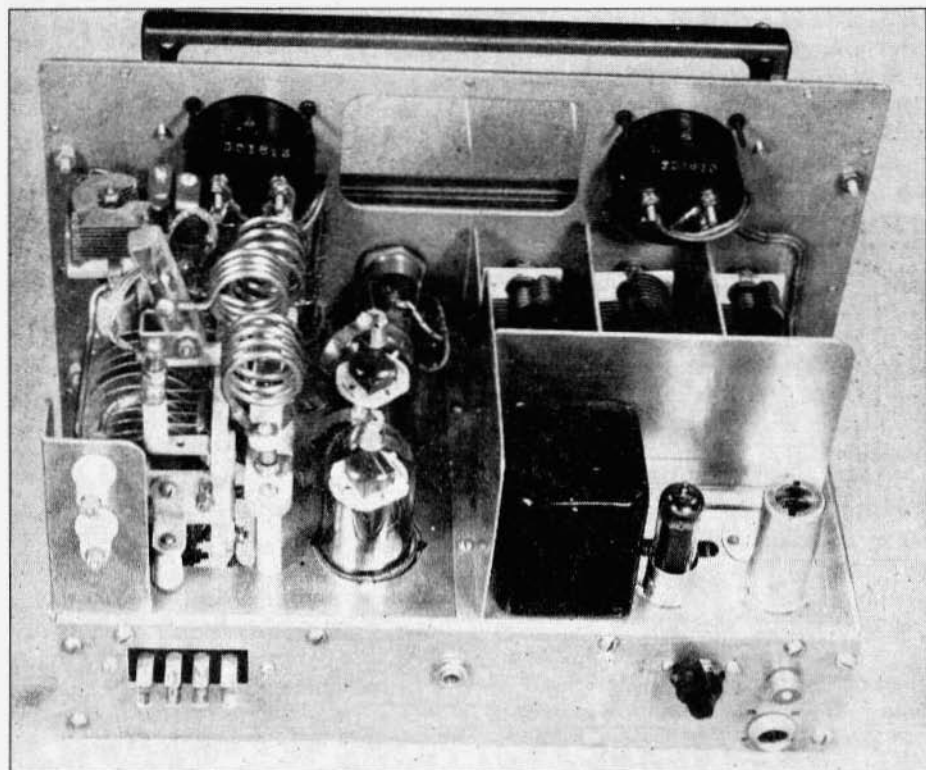
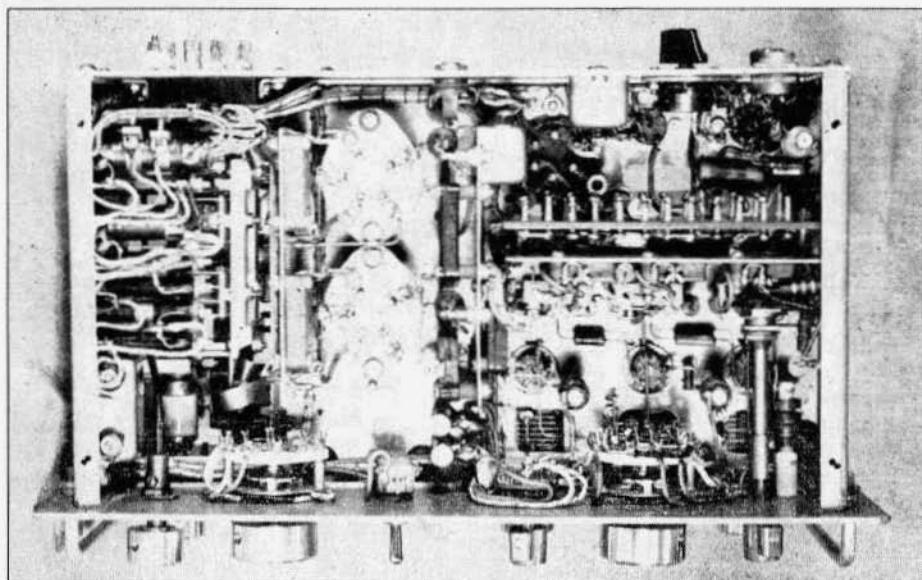

FIG. 2. Inside view of the transmitter showing chassis layout. 10-meter final amplifier coils are in place.
FIG. 5. Under-chassis view
It is essential that the exciter, final amplifier, and audio sections be shielded from each other, both above and below the chassis. In addition, top-chassis shields are provided between each exciter stage. Figures 2 and 4 show the simple placement of baffle shields on top of the chassis, and Figure 5 shows
shield partitions below chassis. The 12AX7 speech amplifier is the only tube requiring an independent shield (See Figure 2). The 807Ws require no shields, but their sockets are mounted below the chassis so as to bring the bottom of the tube plates even with the top of the chassis. 3/8"-wide flat copper strip is used to connect the 807W plate top-caps to the plug-in base for the final amplifier tank coil.
The audio gain control, R(17), is mounted on the rear lip of the chassis (see Figure 2), since this control has been found not to need frequent re-adjustment. There is no objection, however, to mounting R(17) on the front panel, provided an extension shaft is used to place this potentiometer close to the 12AX7 tube socket. Examination of Figure 2 shows that the key, microphone, and v.f.o. jacks also are mounted on the rear lip of the chassis.